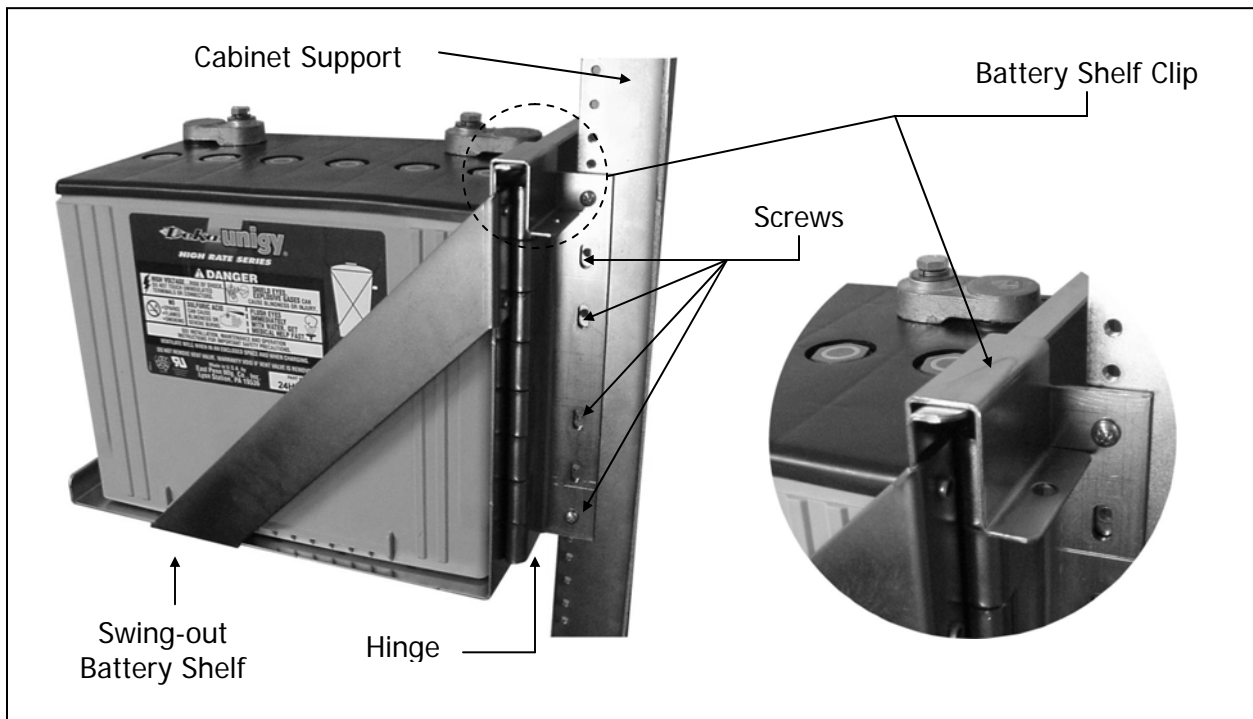

FIGURE 9: Mounting the swing-out battery shelves
- Locate the vertical cabinet support column at the back of your cabinet on the rear door. See Figure 9 below